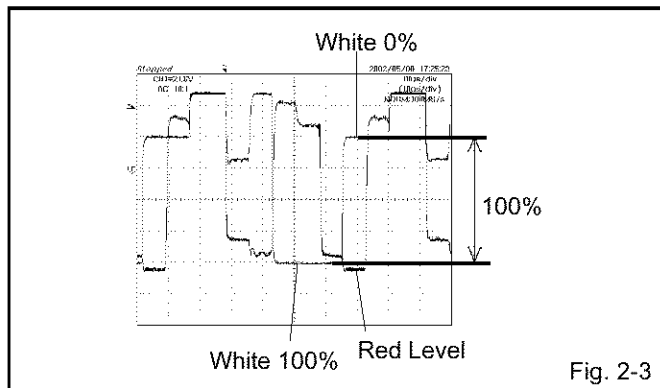

Fig. 2-3
6. Press the VOL. UP/DOWN button on the remote control until the red color level is adjusted to $110 \pm 5\%$ of the white level. **(Refer to Fig. 2-3)**
12. Press the VOL. UP/DOWN button on the remote control until the red color level is adjusted to $110 \pm 5\%$ of the white level. **(Refer to Fig. 2-3)**